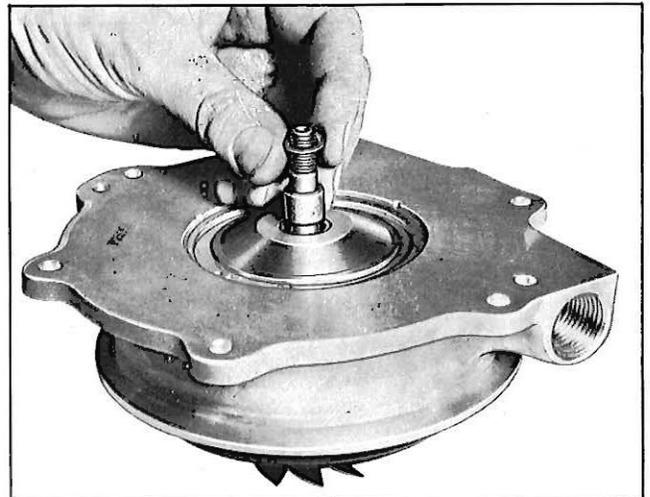

Fig. 34—Shaft Sleeve and Shim Installation
14. Install the shaft sleeve (fig. 34), impeller shim (determined in Step 8f) and start the impeller on the turbine shaft.